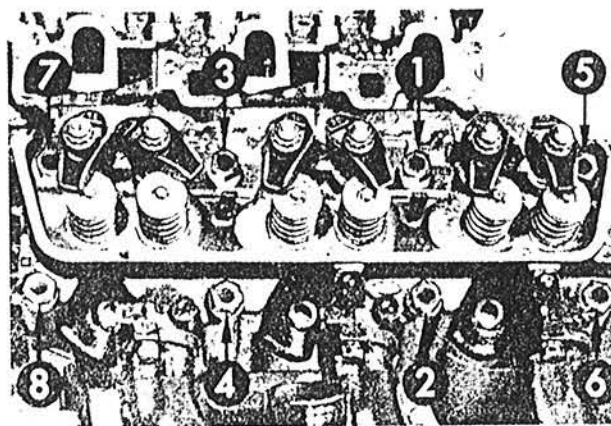

Fig. 1.19 Tightening sequence for cylinder head bolts on the 3.0 litre engine (Sec 87)
- 4 Insert the cylinder head bolts finger tight then tighten them progressively in the order shown in Fig. 1.19 and in the stages as given in the Specifications.